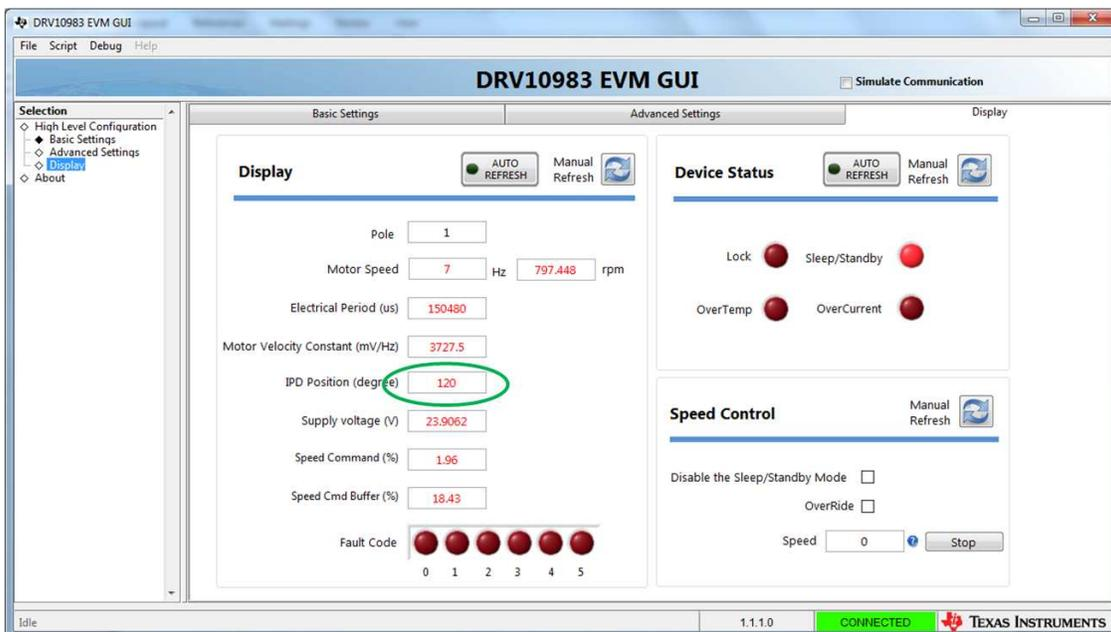

Figure 30. DRV10983x/75 EVM GUI Screenshot
- Motor is aligned and locked again as described in 1. Motor commutation is turned ON while motor is locked. Check 'IPD position (degree)' in display tab and again it displays 60 or 120 (see Figure 30). After checking display, turn OFF motor commutation.